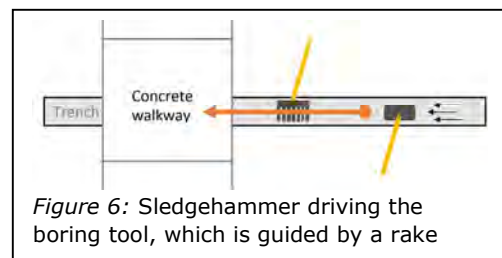

Figure 6: Sledgehammer driving the boring tool, which is guided by a rake
- Use sledgehammer to hit the Impact End and drive the *Sidewalk Boring Tool* along the planned bore path under the concrete (Figure 6)